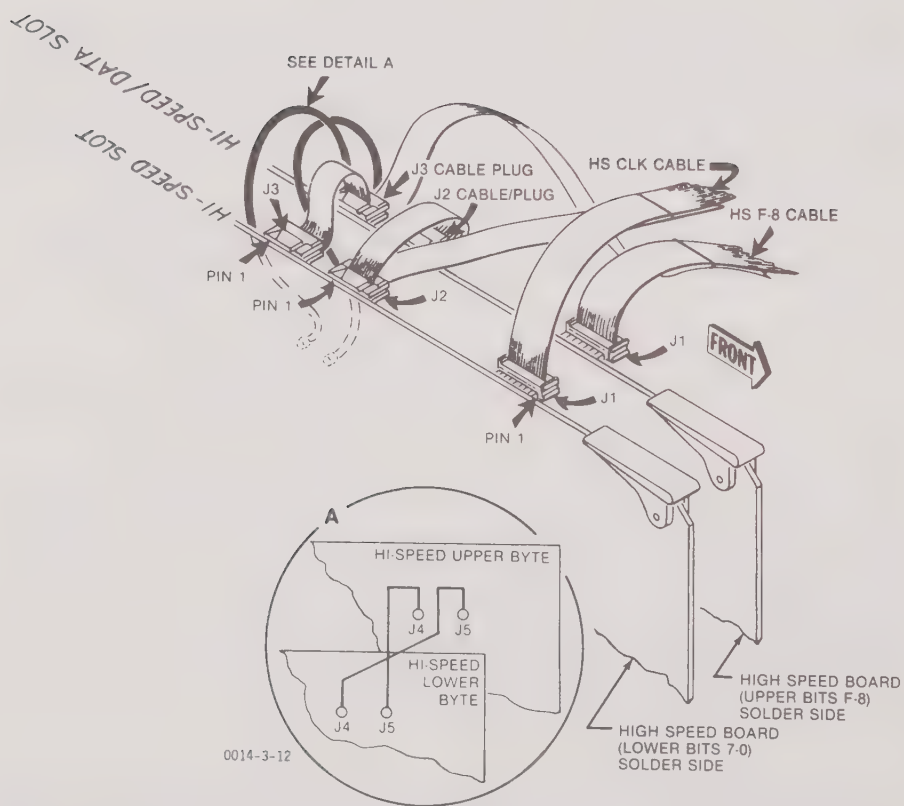

Figure 7-3. Ribbon Cable Connections, High Speed Input Upper Bits Option
7. The board in the HI-SPEED card slot is the HI-Speed Lower Bits circuit board. Referring to Figure 7-3, locate the large and small unattached ribbon cables designated HS CLK and the small ribbon cable in the HS HS F-8 bundle. Note that the small ribbon cables each have two connectors. Raise the High Speed Lower Bits board approximately an inch and connect the large ribbon cable connector to J1. The engraved arrow on the connector should be oriented toward the front of the unit. Connect the intermediate connector of the small ribbon cable designated HS CLK to J2. The engraved arrow on the connector should be oriented toward the rear of the machine, and the end connector of the cable should be hanging loose. Next, connect the end connector of the small ribbon cable of the HS F-8 bundle to J3. The engraved arrow on the connector should be oriented toward the rear of the unit, and the intermediate connector left unattached.